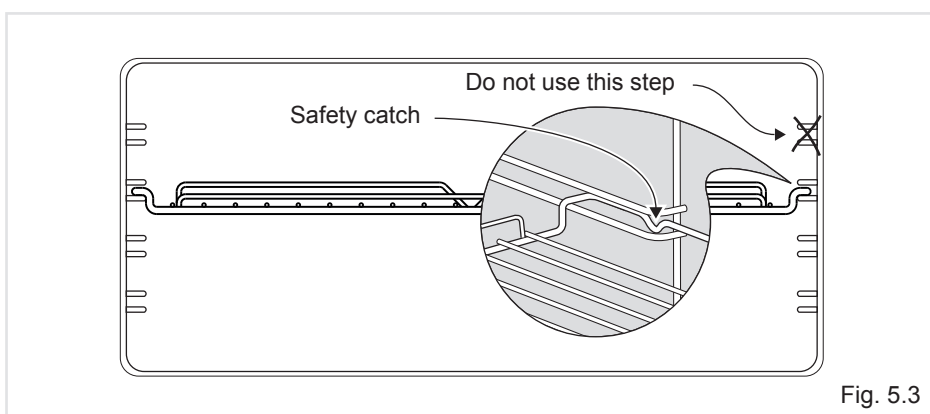

Fig. 5.3
- Slide in, on the guides, the shelves (fig. 5.3). Do not use the first step from the top. The rack must be fitted so that the safety catch, which stops it sliding out, faces the inside of the oven.